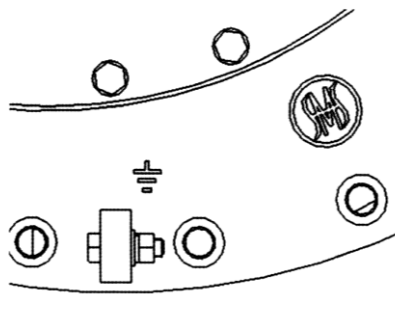

Figure 60 Connect the grounding bolt
- 1) Connect the grounding bolt of the tap-changer head to the transformer tank cover (1 piece of M12 bolt and nut) with a 19mm wrench, torque of 50 to 60 N.m. (Figure 60).